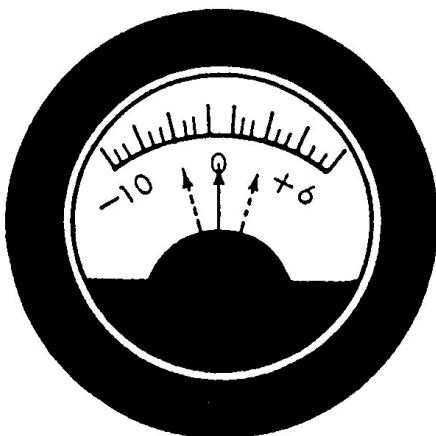

Figure 7-21.—Volume indicator meter.
**VOLUME INDICATOR METER.**— A volume indicator meter (fig. 7-21 ) is mounted on the front of the microphone control station. This meter indicates that the system is ready for use. This meter also indicates the amount of output volume when a transmission is made. This meter is calibrated in decibels from -10 dB through 0 dB to +6 dB. When the press-to-talk switch on the microphone is depressed, the meter needle should deflect. When an announcement is being transmitted, the meter needle should deflect to 0 dB on peaks for normal volume.